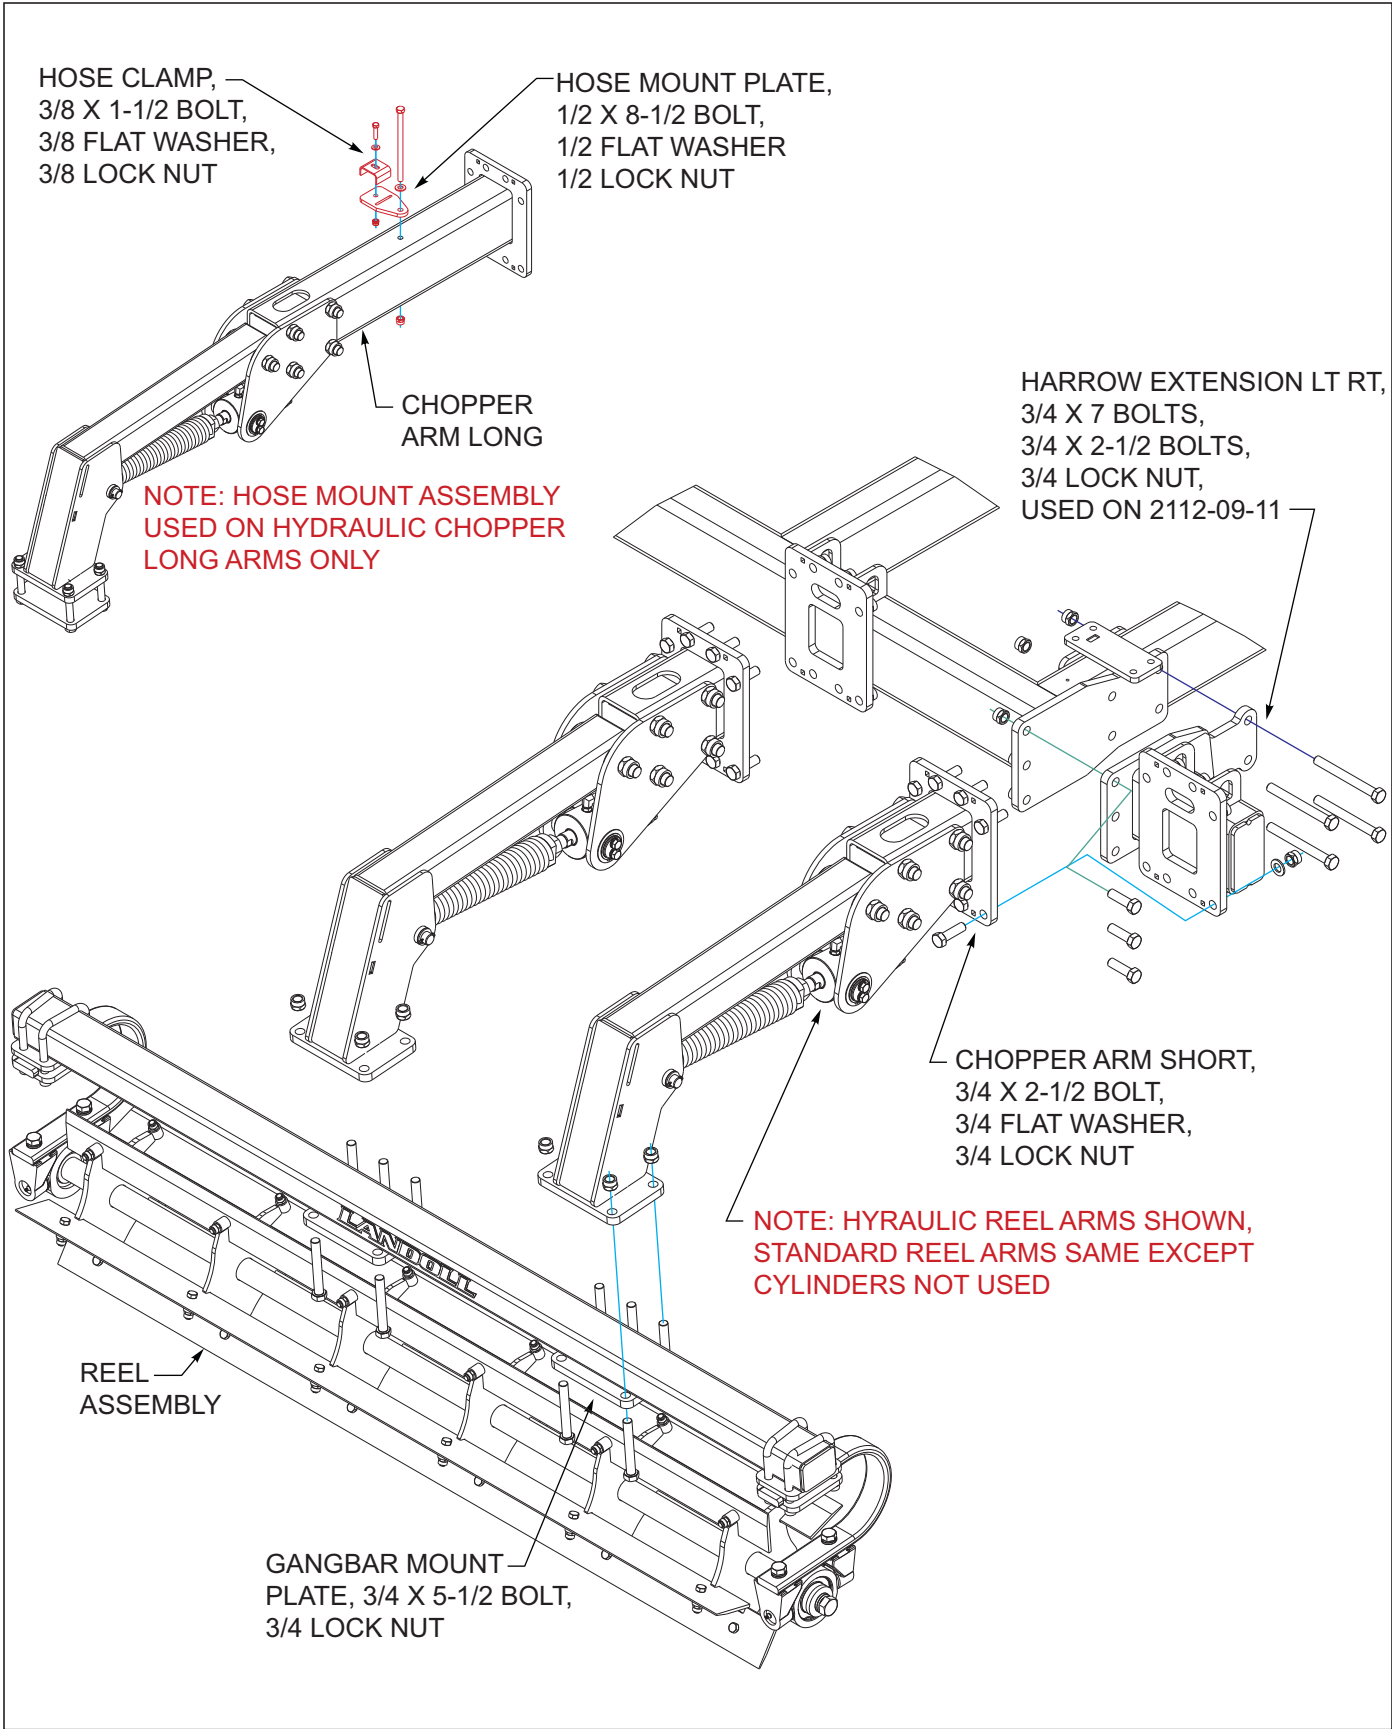

Figure 3-29: Standard or Hydraulic Chopper Installation (Option)
2. Attach the chopper arm long assemblies on rear of center frame, RT side, and short arm assemblies, LT side, to plates on rear of center frame with 3/4 x 2-1/2 bolts, 3/4 lock nuts See Figures 3-29.